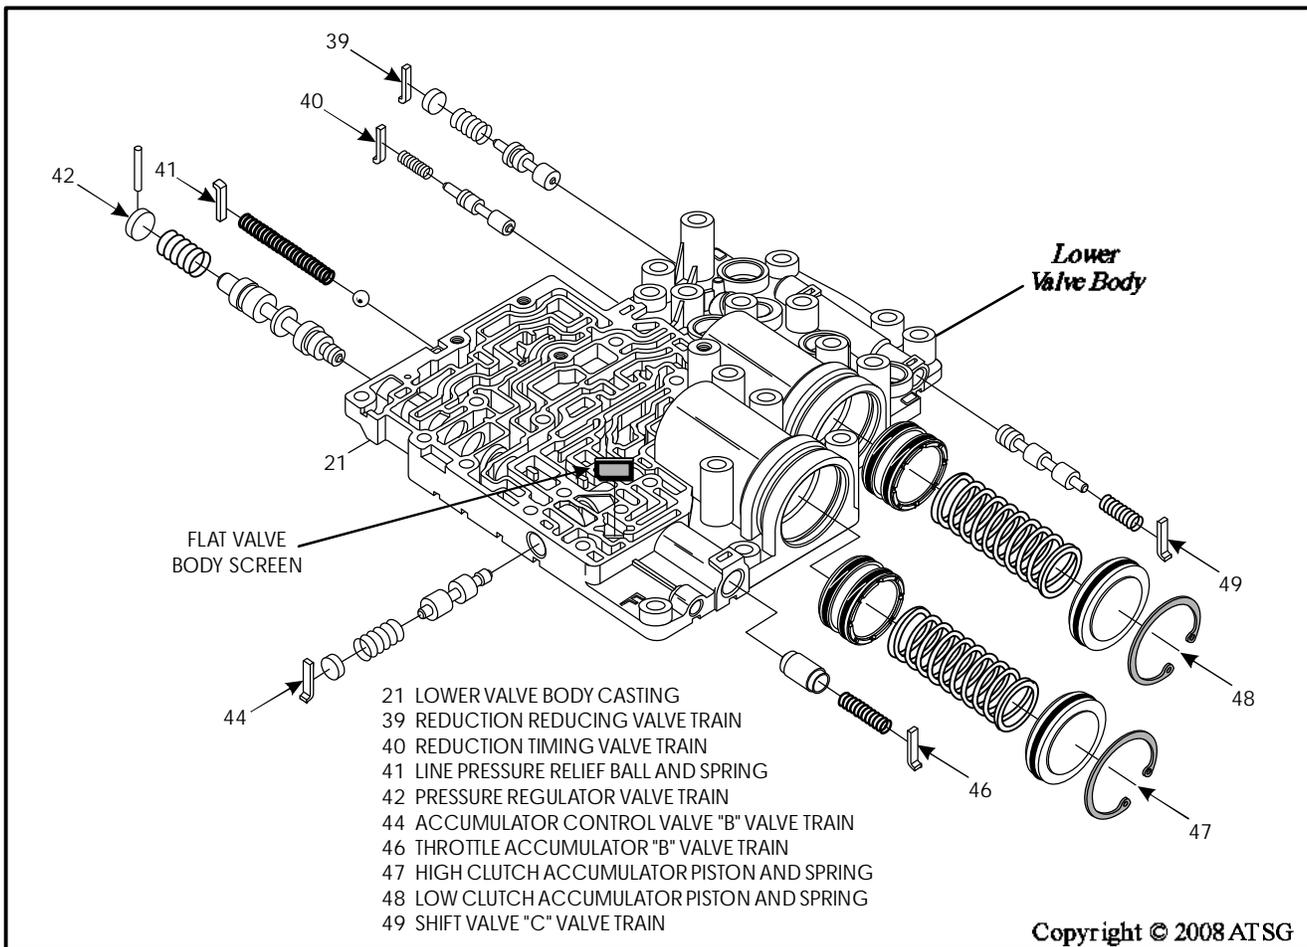

Figure 163
9. Disassemble the lower valve body, as shown in Figure 163, and place the valves, bore plugs and retainers in appropriate trays exactly as they were removed.
11. Assemble lower valve body parts exactly as they are shown in Figure 163, and lube with proper ATF as they are installed.
Note: Install the retainers exactly as shown in Figure 163, as they install in different directions through out the valve body.
12. Install the flat valve body screen into position as shown in Figure 163.
14. Lubricate both pistons and seals with a small amount of the proper ATF and install them into the bores, as shown in Figure 163.
16. Install both high and low clutch accumulator springs, that were previously labeled, in their proper positions, as shown in Figure 163.
18. Compress the cover and install the snap ring shown in Figure 163.
20. Compress the cover and install the snap ring shown in Figure 163.